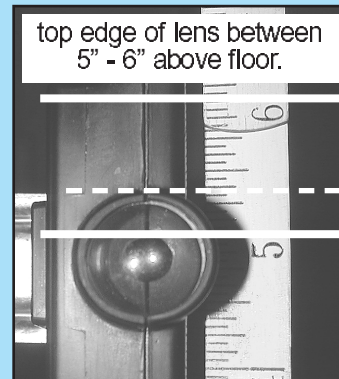

FIG. 3-9 Check lens height.
- Insure that tops of lenses are between 5" - 6" above the floor (Fig. 3-9). The brackets are flexible and can be adjusted slightly if needed.